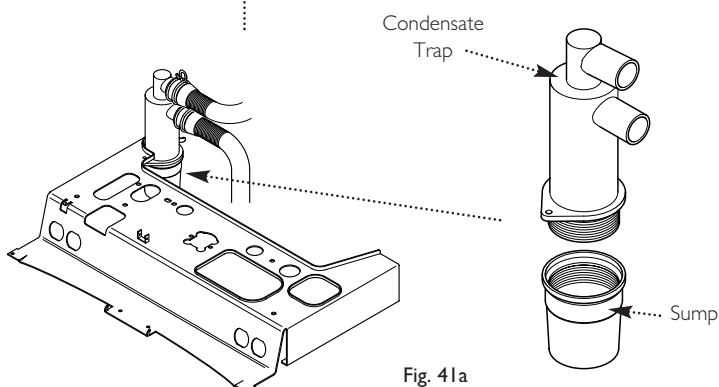

Fig. 41a
7. Unscrew the sump from the bottom of the condensate trap assembly (Fig. 41a).